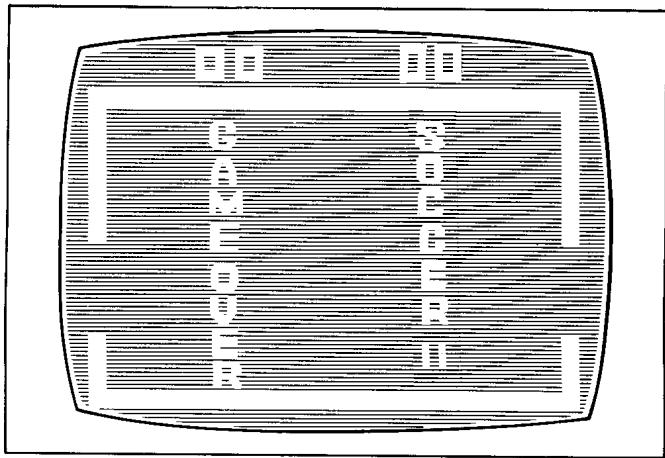

Figure 2-1 Typical TV Monitor Display During Attract Mode
A. ATTRACT MODE **(See Figure 2-1)**